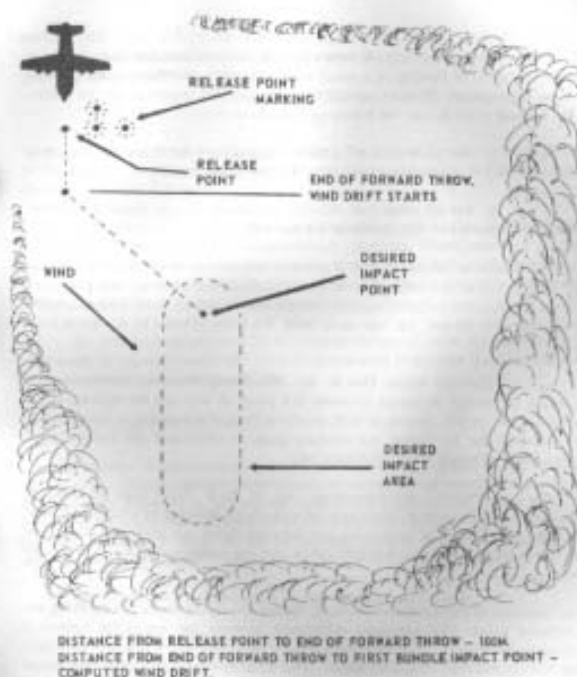

Figure 27. Computation of release point.
(1) DZ's may be marked at night by using lights. A few of the possible lighting devices are flashlights; flares; and small wood, oil, or gas fires.
(2) For daylight operations the issued Panel Marking Set, AP-50 or VS-16 is satisfactory for use. If issued panels are not available, sheets, strips of colored cloth, or other substitutes may be used as long as there is a sharp contrast with the background. Smoke signals, either smoke grenades or simple smudge fires, greatly assist the aircrew in sighting the DZ markings on the approach run.
(3) The use of electronic hoisting devices permits reception operations to be conducted during conditions of low visibility. Such devices normally are used in conjunction with visual marking systems.
6. Computation of Release Point. The release point must be determined to ensure delivery of personnel or cargo within the usable limits of the DZ. Computation of the release point involves the following factors (figure 27):